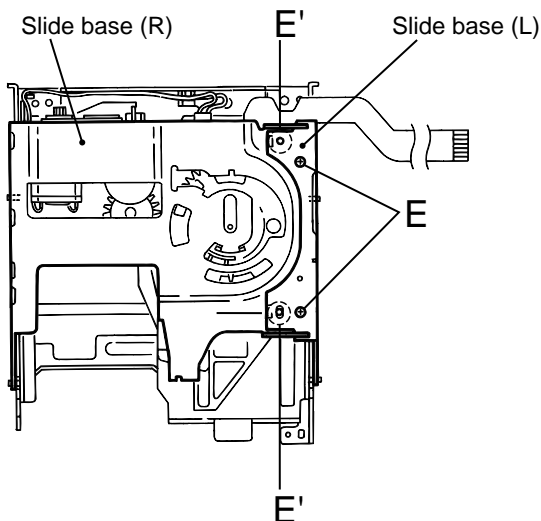
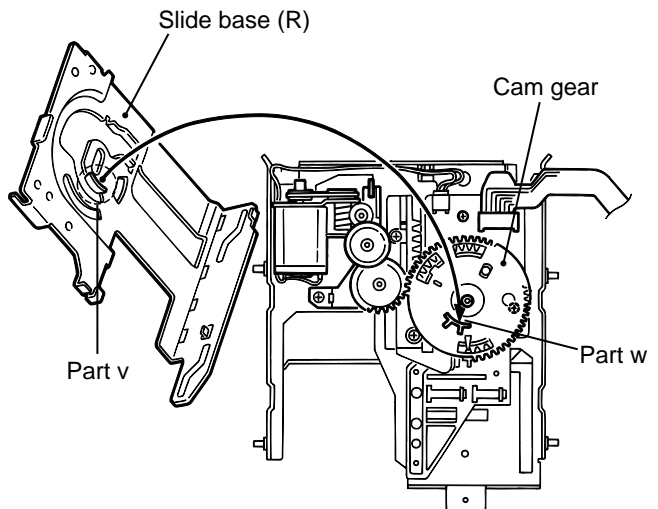

Fig.26
Fig.25
ATTENTION: Fit the part v of the slide base (R) to the part w on the inward side of the cam gear rib. (Fig.25)
10. Reattach the slide base (L) on the slide base (R) while fitting the two pins on another side of the UD base to the slots of the slide base (L) (Fig.25). Make sure the two slots of the slide base (L) are fitted to the two bosses marked E' and tighten the two screws E. (Fig.26)